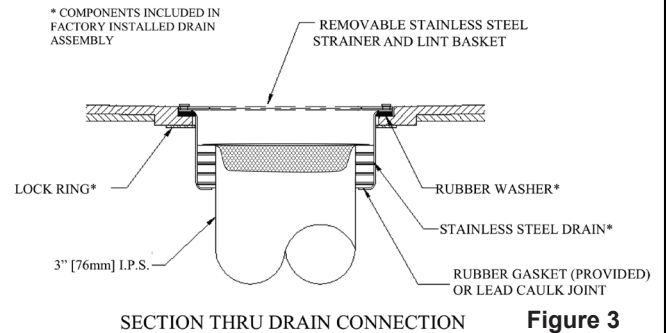

Figure 3
4. Connect the drain line to the basin with included QDC3XH rubber gasket or lead caulk joint (See Figure 3).